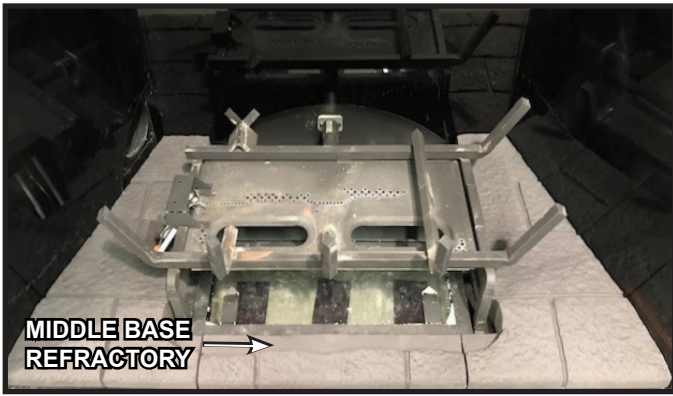

Figure 25 Middle Base Refractory installed
25. Install Middle Base Refractory piece. See Figure 25.